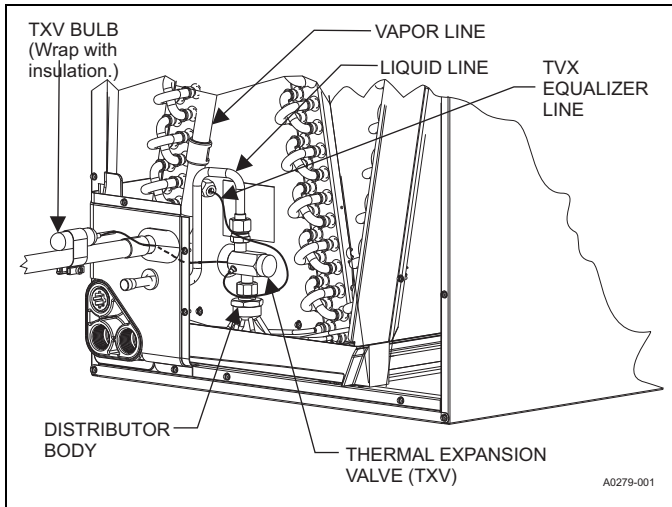

FIGURE 2: TXV Bulb and Equalizer line Installations
6. Install the TXV equalizer line onto the vapor line by hand tightening the 1/4" SAE flare nut to the equalizer fitting, and apply an additional 1/3 turn to seal. See Figure 2.
8. Install the TXV bulb to the vapor line near the cabinet, using the bulb clamp(s) furnished with the TXV assembly. Ensure the bulb is making maximum contact. See Figures 2 and 3, and accomplish the following: